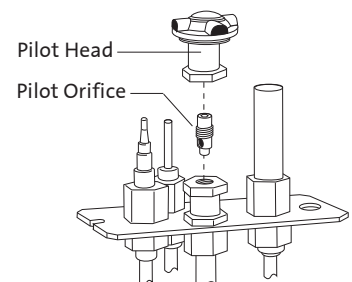

Figure 18. Remove pilot head and pilot orifice.
8. **Change the Pilot Orifice.** From within the firebox, pull the pilot hood off the pilot assembly. See Fig. 18. Using the 4 mm allen wrench included with the conversion kit, remove the original pilot orifice (counterclockwise). Replace with the appropriate orifice: